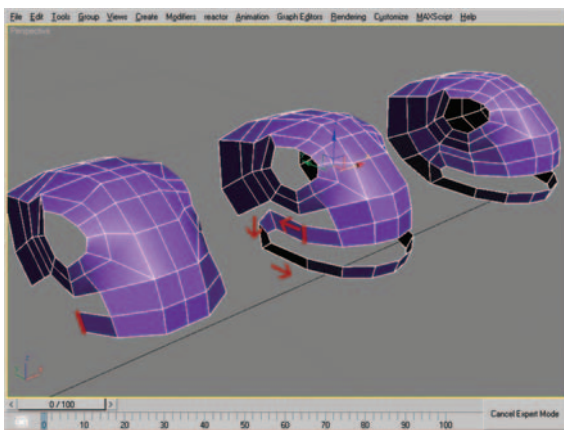

Figure 9.19 Edge selection and resulting mesh after shift-dragging.
19. Select the edge seen in Figure 9.19 (left) and shift-drag it seven times to mimic the shape seen in Figure 9.19 (right). As you look at the screen capture, keep in mind that Symmetry is being used, and the last shift-drag operation brings the edge to the mirror axis of the mesh.